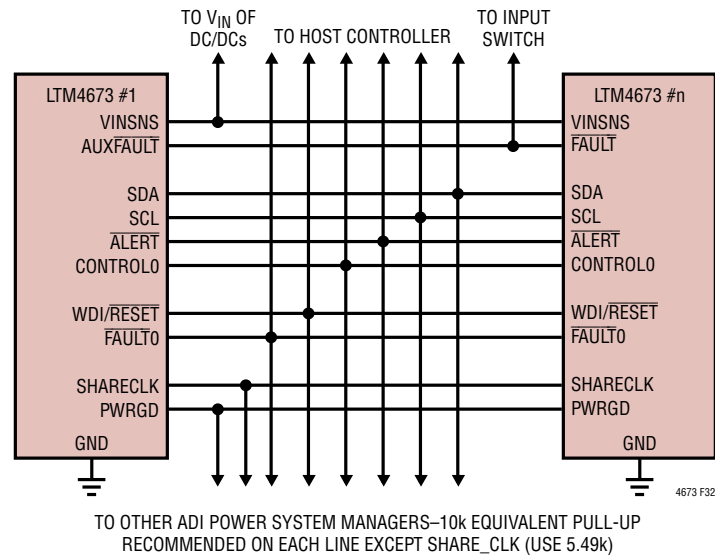
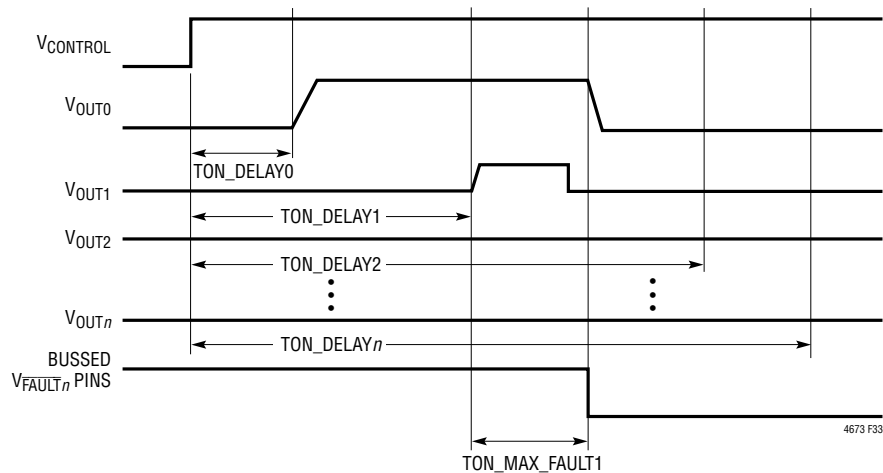

Figure 32. Typical Connections Between Multiple Analog Devices Power System Managers
Figure 33. Aborted On-Sequence Due to Channel 1 Short
Figure 32 shows how to interconnect the pins in a typical multi-LTM4673 array.
- The FAULT lines can be connected together to create fault dependencies. Figure 32 shows a configuration where a fault on any FAULT will pull all others low. This is useful for arrays where it is desired to abort a startup sequence in the event any channel does not come up (see Figure 33).
- PWRGD reflects the status of the outputs that are mapped to it by the MFR_PWRGD_EN command. Figure 32 shows all the PWRGD pins connected together, but any combination may be used.